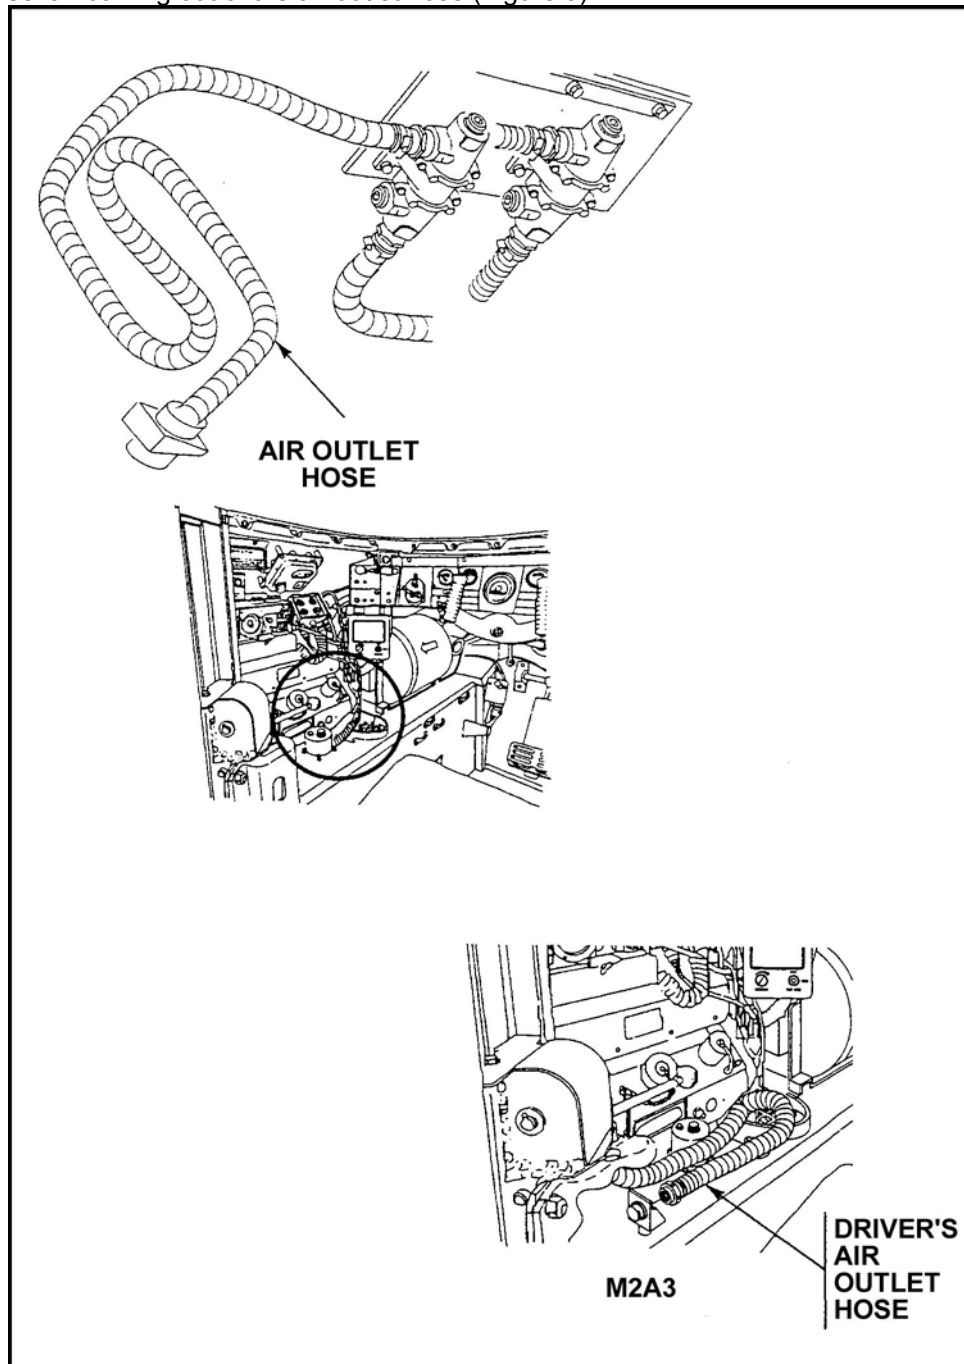

Figure 5. Air outlet hose.
f. Feel air coming out of the air outlet hose (Figure 5).